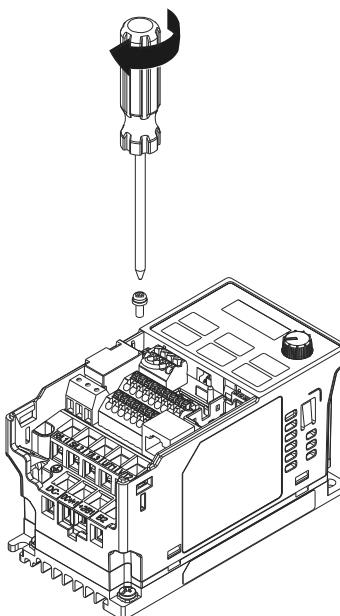

Figure 8-3
3. As shown in Figure 8-3, make sure that the clip is properly engage the adapter(option card), and then fasten the screw (Suggested torque value: 4–6 kg-cm [3.5–5.2 lb-in.] [0.39–0.59 Nm]).